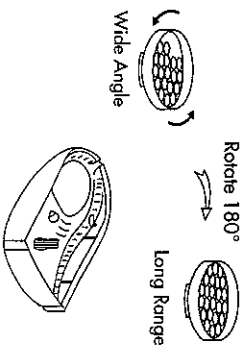

Fig. 1
- B. Adjust the vertical pattern angle per Fig.1 below.
- D. After testing, the LED can be disabled to prevent unauthorized tracing of the coverage pattern. To disable the LED, remove the jumper from the left and middle pins of the LED selector (ON) and place it across the middle and right pins (OFF).